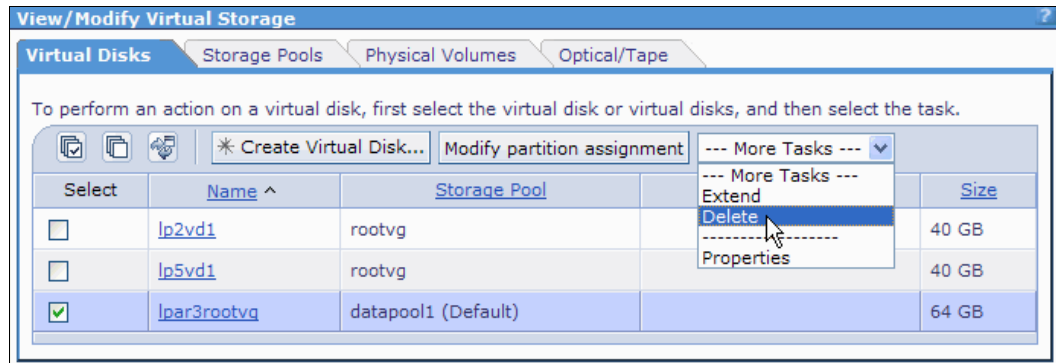

Figure 4-18 Virtual disk deletion
1. Under the Virtual Storage Management menu in the navigation area, click **View/Modify Virtual Storage**. See Figure 4-18 on page 61.
- Under the Virtual Disks tab in the work area, select the virtual disk for which you want to change the assignment, as shown in Figure 4-18. You can select more than one virtual disk. Select **Delete** from the More Tasks drop-down list. Click **OK** to continue. See Figure 4-18.